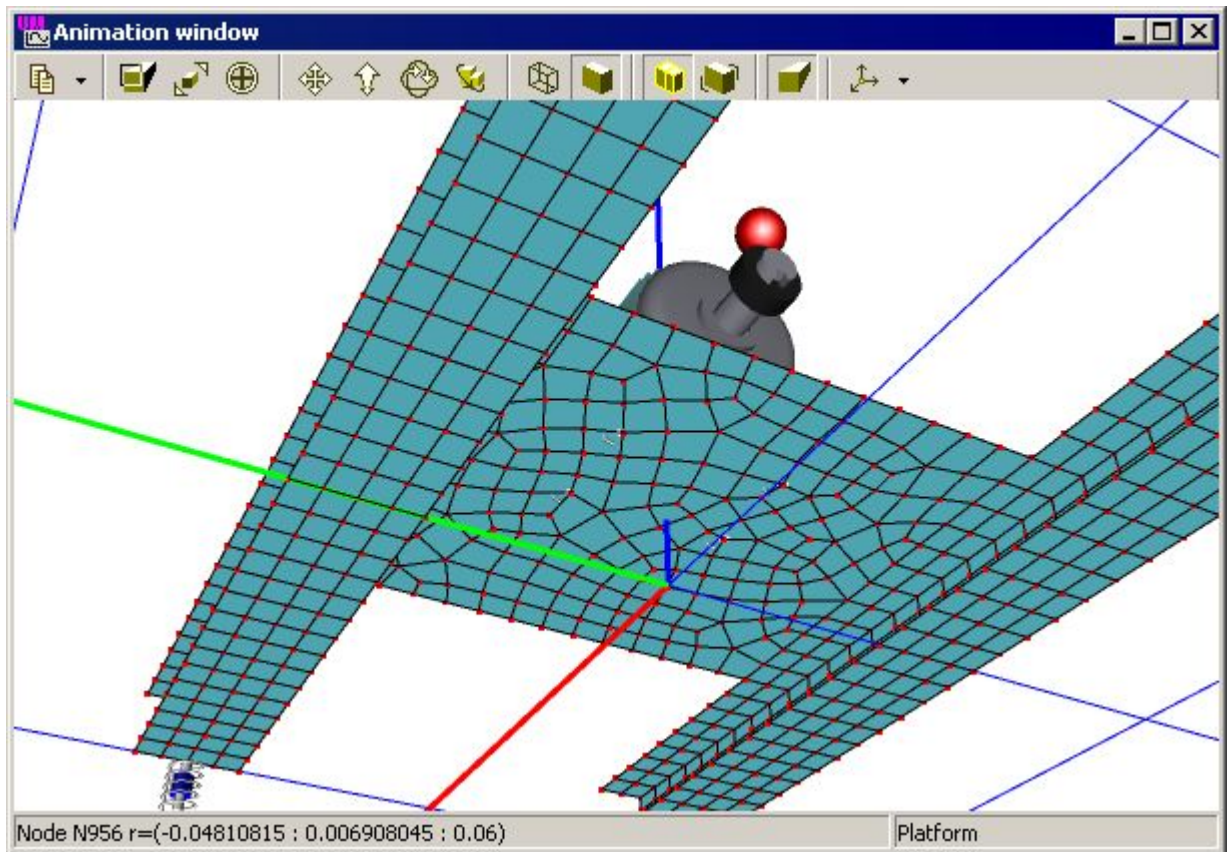

Figure 3.27.
5. Select Wizard of variables and create two variables for calculation Z projections of position and acceleration of the node 956 with approximate coordinates (-0.048; 0.007; 0.06), see Fig. 3.27, 3.28.
**Note.** You can plot position and acceleration of any node you want. The only information you need is coordinates of the node. To get them point the mouse to the node in an animation window and you can see its coordinates in the status bar of the window, see Fig. 3.27.